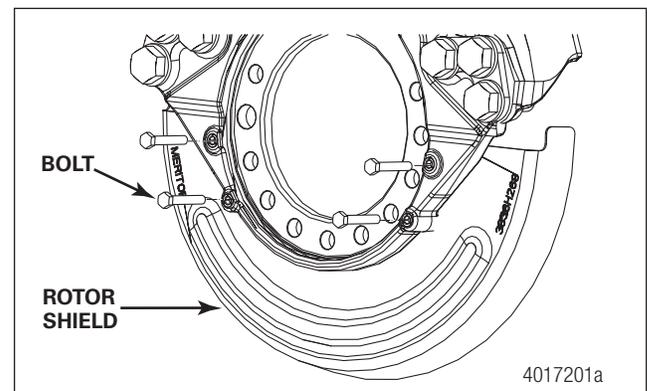
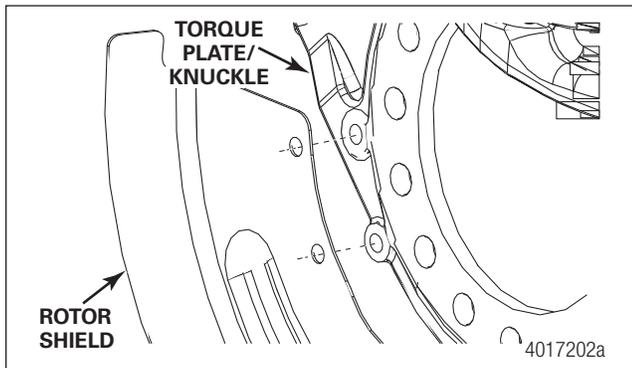

Fig. 5.2 Rotor Shield Retaining Bolts
Fig. 5.3 Rotor Shield
STEP 1 - Remove the shield retaining bolts and remove the shield from the torque plate, axle, or knuckle. Figure 5.2 and Figure 5.3.
STEP 2 - Once the inspection is complete, reinstall the rotor shield on the torque plate and align the bolt holes. Figure 5.3.
STEP 3 - Insert the rotor shield retaining bolts and start them by hand. Figure 5.3. If the bolts are not damaged, reuse the original bolts. If the bolts are damaged, use new M8x1.25 class 8 bolts of an appropriate length. Figure 5.2.